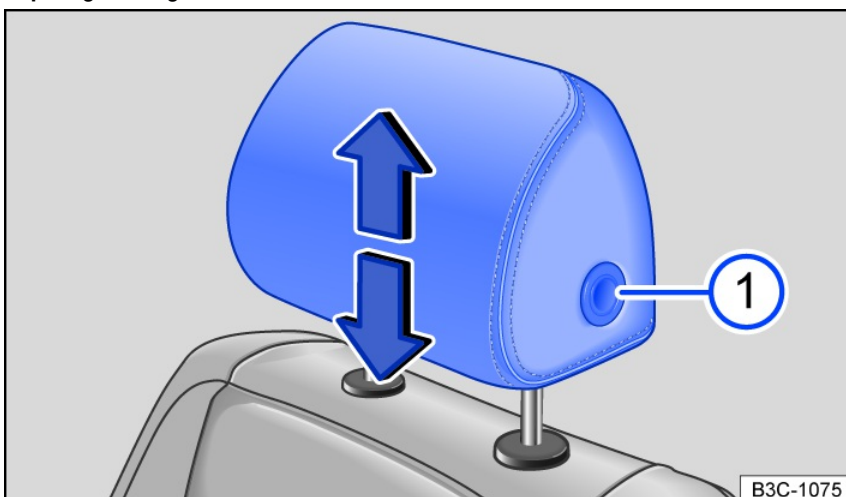

Fig. 83 Adjusting the front head restraint.
- If necessary, slide the head restraint upward or downward in the direction of the arrow and when pressing the fig. 83¹ or fig. 84¹ button.